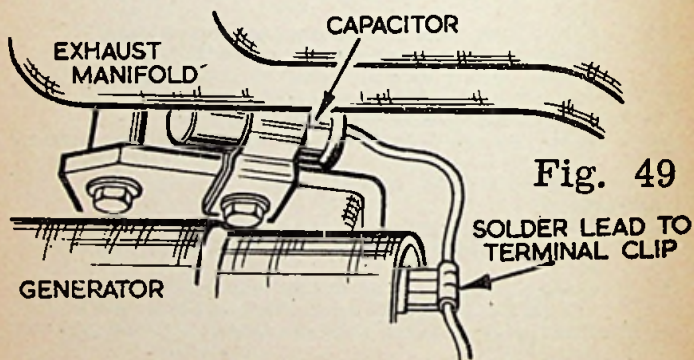

Fig. 49
- (1) Connect a 1 mfd capacitor to charging terminal of generator and mount capacitor under adjacent fixing screw. See Fig. 49.
- (2) Connect a 1 mfd capacitor to "SW" terminal of the ignition coil and mount capacitor under coil fixing screw. NOTE :- Clean to bare metal all surfaces in contact with capacitor fixing lugs.